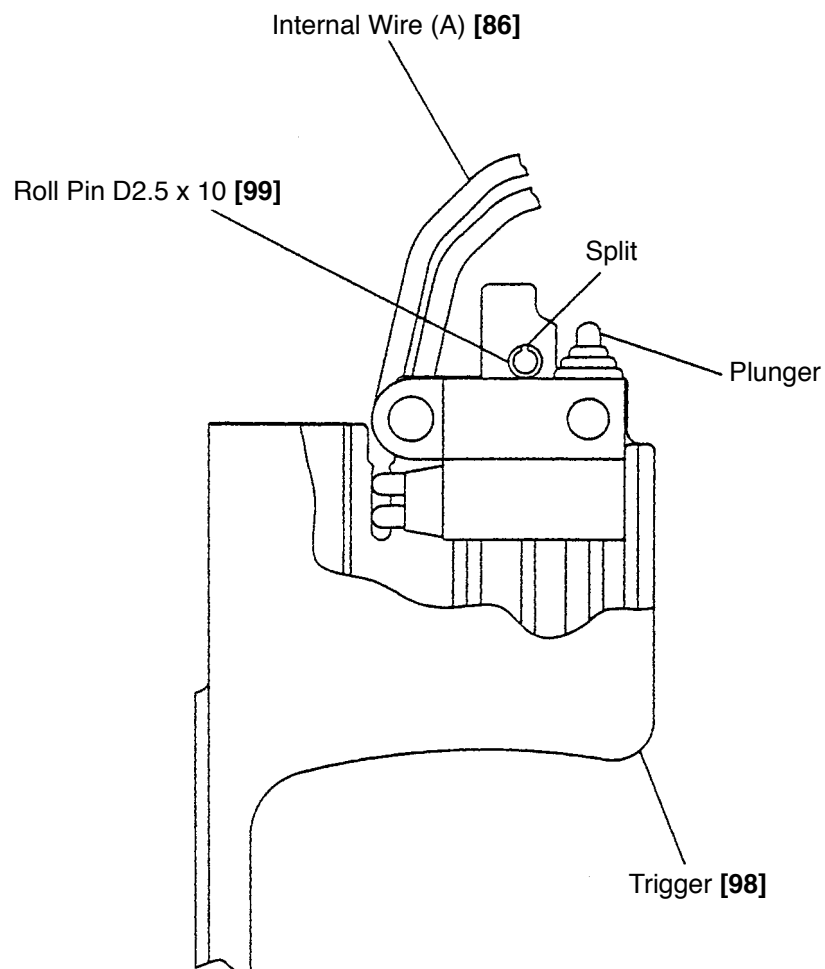

Fig. 55
- Be careful of the split direction of the Roll Pin D2.5 x 10 [99] when mounting the Trigger [98] and Internal Wire (A) [86]. Do not damage the plunger of the switch (Fig. 55).